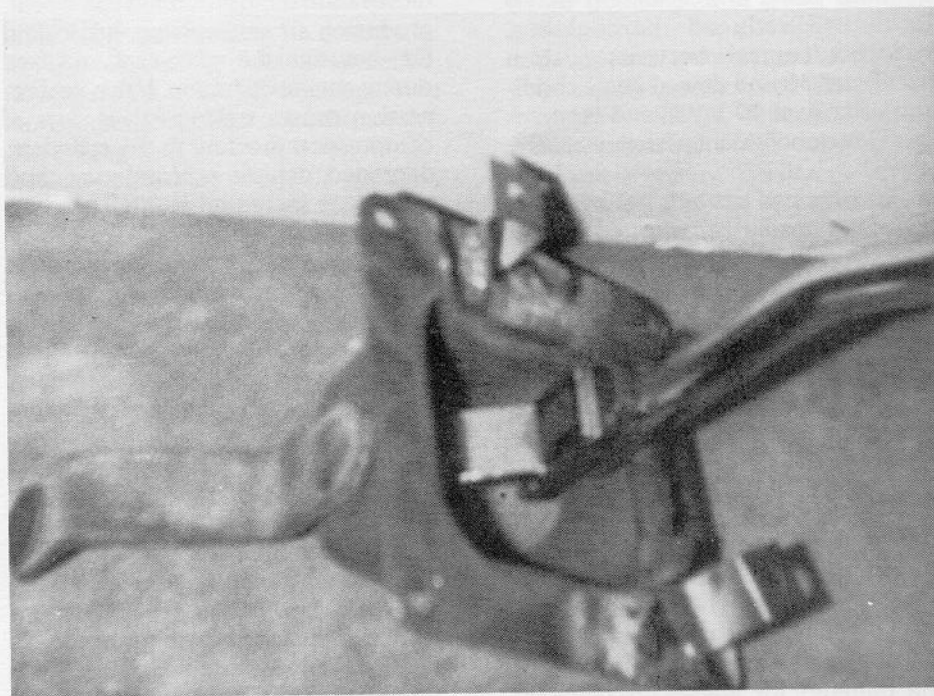

FIGURE 5 — Completed shift lever assembly, ready for installation.
17. Re-assemble shift lever, replacing lever bushing if worn. (See Figure 5)